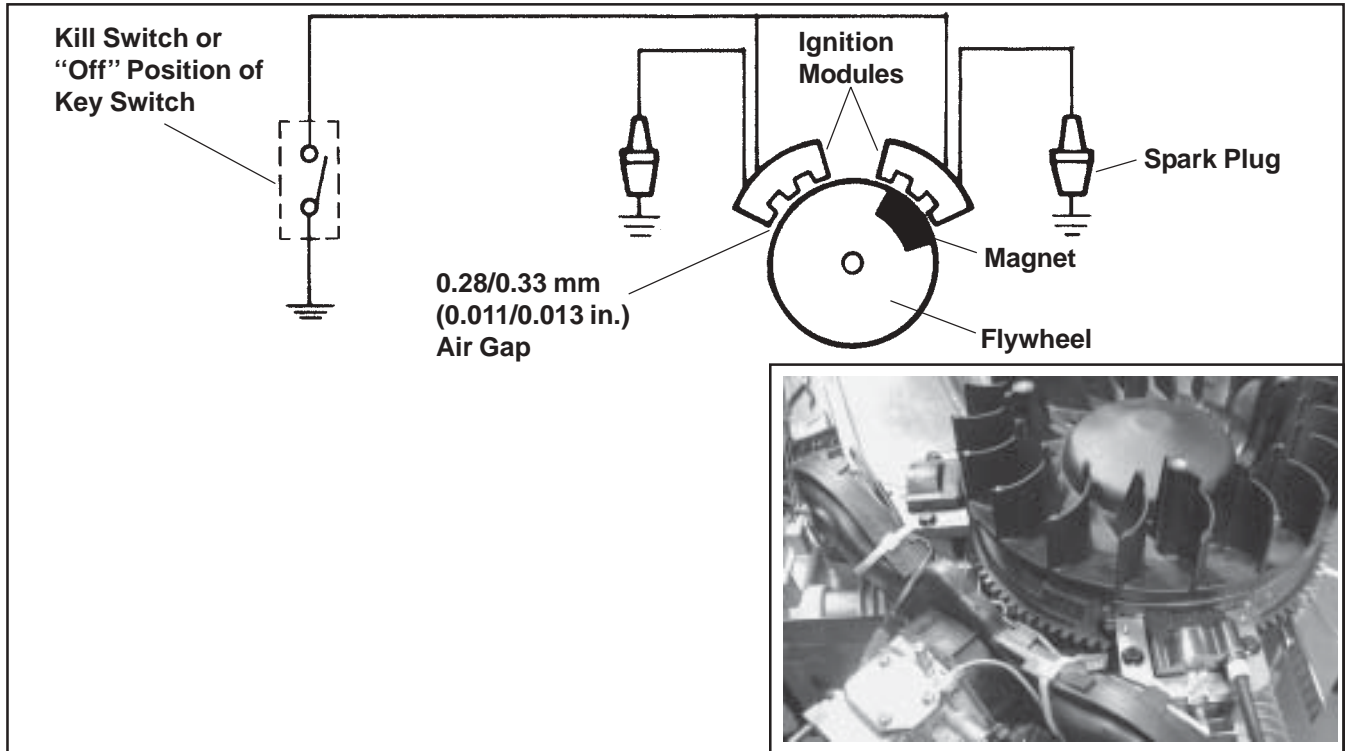

Figure 8-4. Capacitive Discharge (Fixed Timing) Ignition System.
- Two electronic capacitive-discharge ignition modules which mount on the engine crankcase (Figure 8-4).